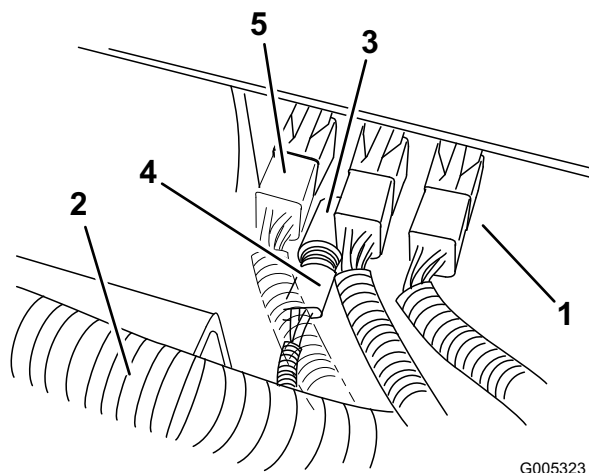

Figure 12
7. At the front of the machine, connect the plug marked power plug to the power plug in the dash (Figure 12).